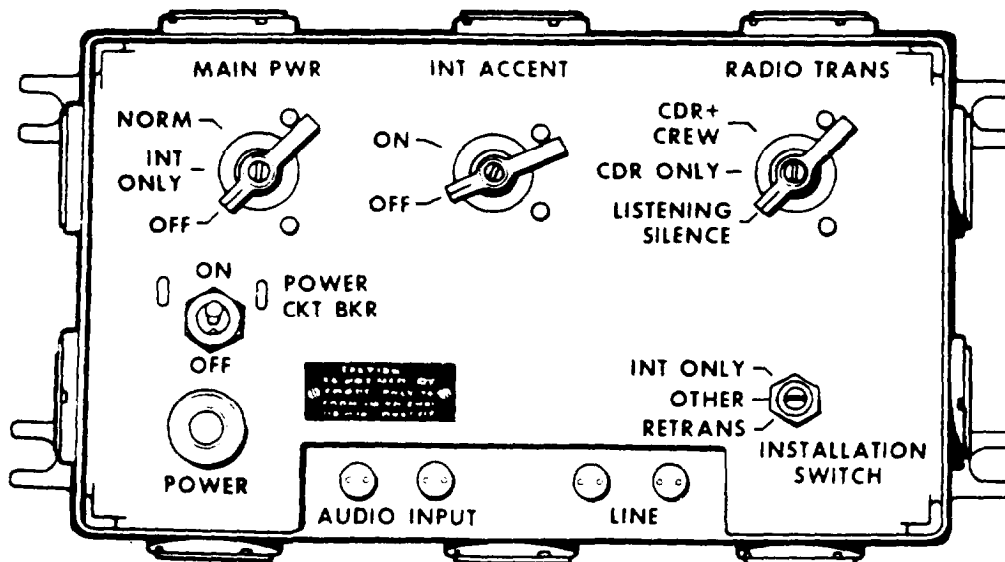

Figure 11-1. AM-1780 Amplifier
1. Turn turret power on. Turn MAIN PWR switch on the AM-1780 to INT ONLY. Power is now available for intercom equipment. See figure 11-1.